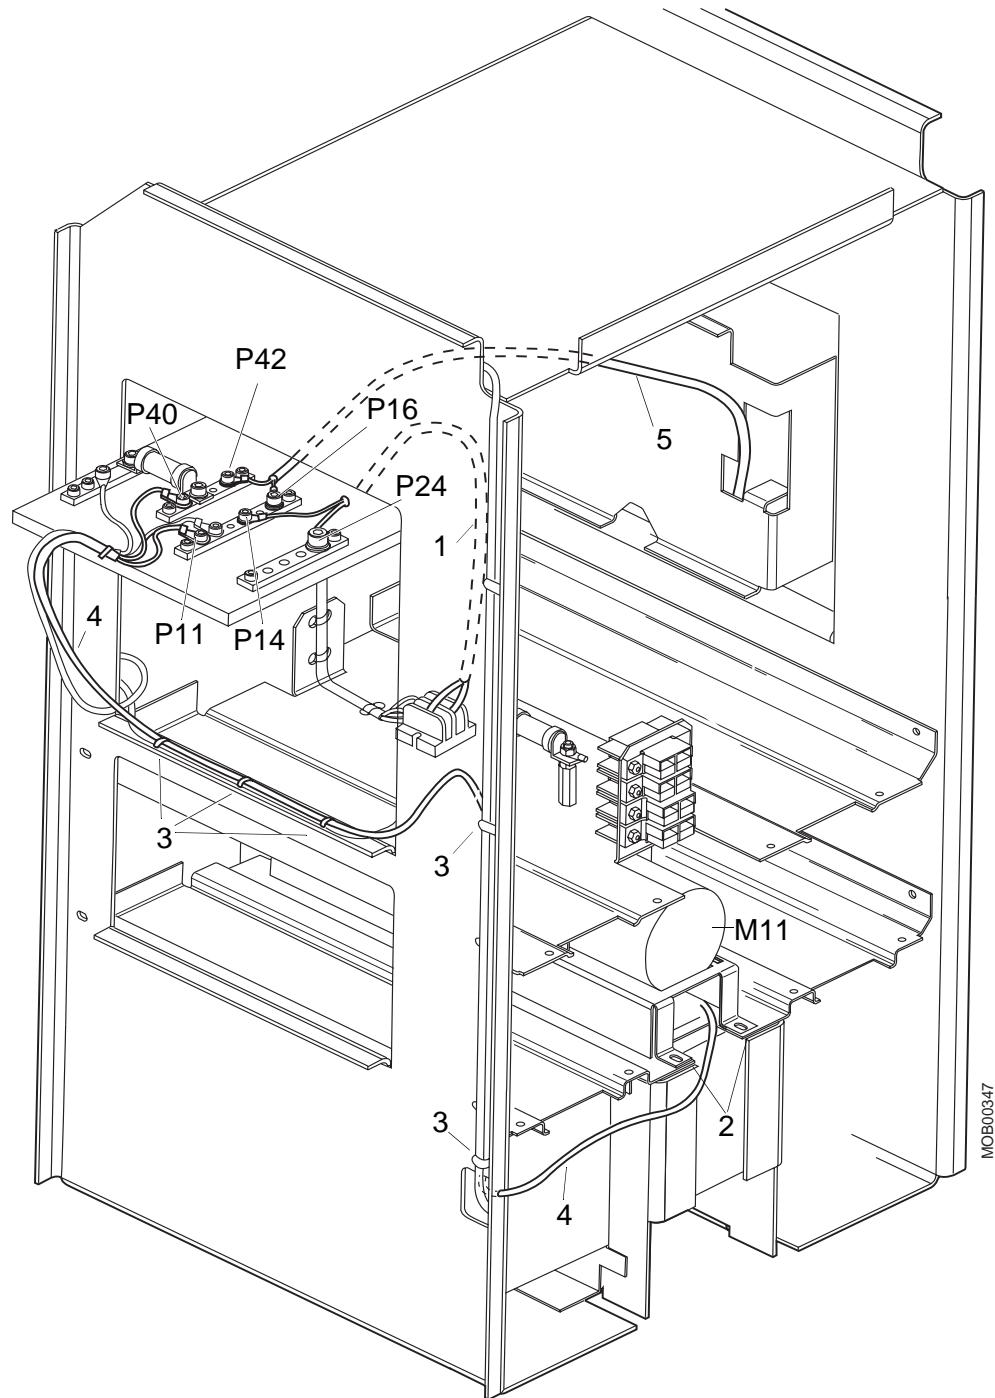

Fig. 4
2. Disconnect cable (1/Fig. 4) from P24 and P14 on the power conversion unit.
- Connect cable (1/Fig. 4) to P14 and P24 on the power conversion unit.
- Insert the capacitor unit, M11, and fasten it with screws (2/Fig. 4).
- Cut cable ties (3/Fig. 4). Connect the cable (4/Fig. 4) to P11 and P40 according to Fig. 4. Fasten with new cable ties.
- Disconnect cables K8 and K64 on the right-hand side and replace the inverter. Connect cable (5/Fig. 4) to P16 and P42 on the power conversion unit.